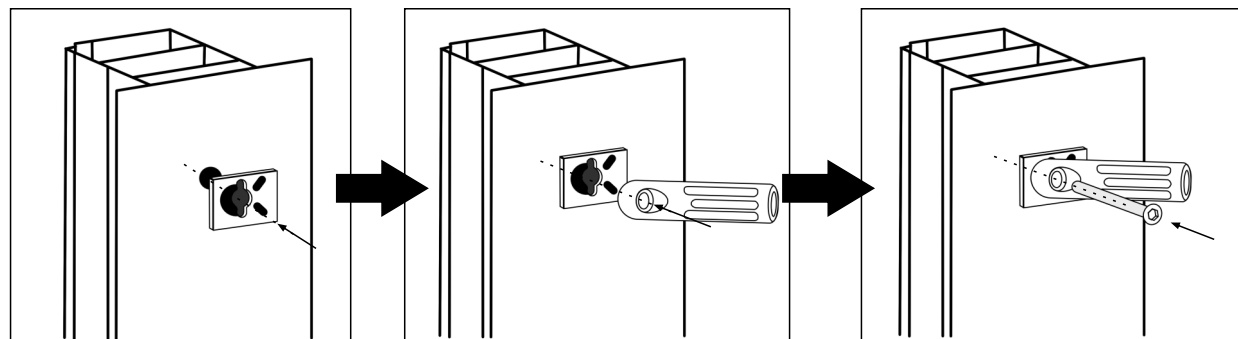

Figure 36
1. Assemble the set consisting of a plastic support, a decorative plate, and a handle holder (without thread) – insert the screw through the mounting hole in the door leaf (figure 36).